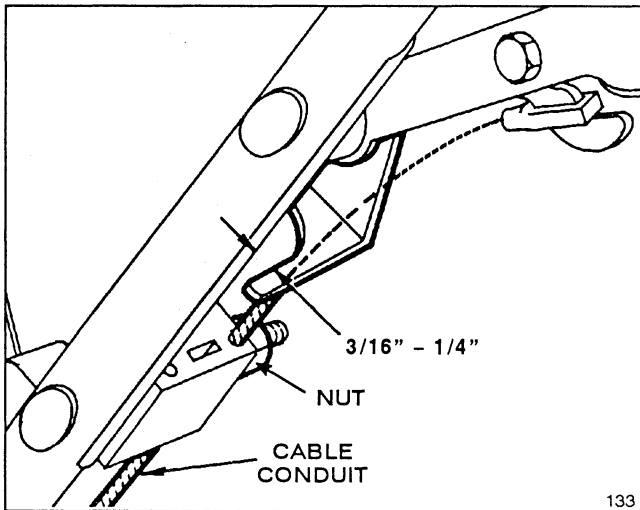

Figure 18
2. CHECK ADJUSTMENT (Fig. 18)—Move control bar toward handle until slack in wire is removed. Gap between brake lever and handle must be $3/16$ "– $1/4$ ". See step 3 for adjustment.
3. ADJUST CABLE CONDUIT—Loosen nut on cable bracket (Fig. 18). Insert $3/16$ "– $1/4$ " object between brake lever and handle. Pull down on cable conduit until slack is removed. Then tighten nut.